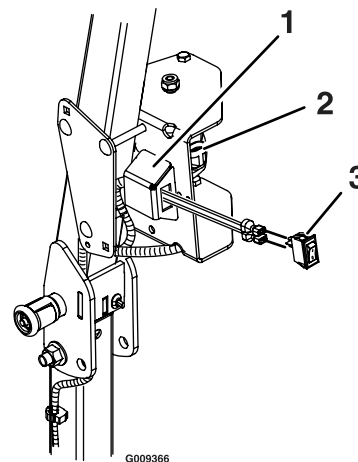

Figure 6
2. Position the bracket with switch mount (item 3) on the upper right side of the ROPS. Secure with one mount plate (item 5), three 5/16-18 x 2 3/4 inch bolts (item 7), and three 5/16-18 inch nyloc nut (item 8) as shown in Figure 1 and Figure 6.
3. Position the bracket with decal assembly (item 2) on the left side of the ROPS and secure with the same components as step 2.
4. Remove and retain the nut that is installed on the headlight (item 4). Insert the headlight mount shaft into the hole on the light brackets (items 2 and 3) and fasten with the nut.
Pass the wires for the switch through the rectangular cutout on the switch mounting bracket as shown in Figure 6. Connect the terminals on the switch to the harness connectors. Be sure the connectors are fully inserted onto the terminals. Carefully snap the switch into the cutout.
Pass the wires for the switch through the rectangular cutout on the switch mounting bracket (similar to Figure 6). Locate the switch (item 6), connect the brown wire to the center terminal of the switch and connect white wire to the other terminal on the switch (it will be positioned above the center terminal when inserted into the switch bracket). Be sure the connectors are fully inserted on to the terminals. Now carefully snap the switch into the cutout for the switch (similar to Figure 6).